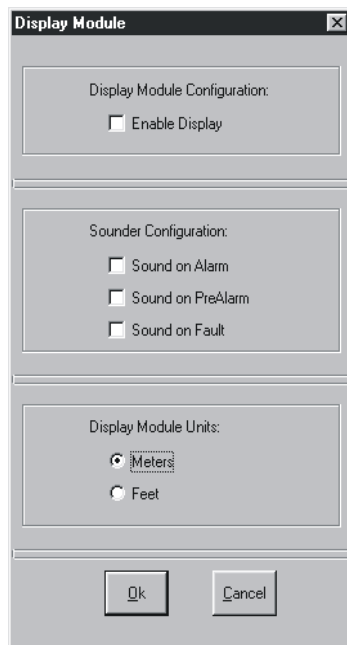

Figure 6-14. LCD Enable Screen
1. Select **Options>Configure>Display Enable**. Figure 6-14 displays.